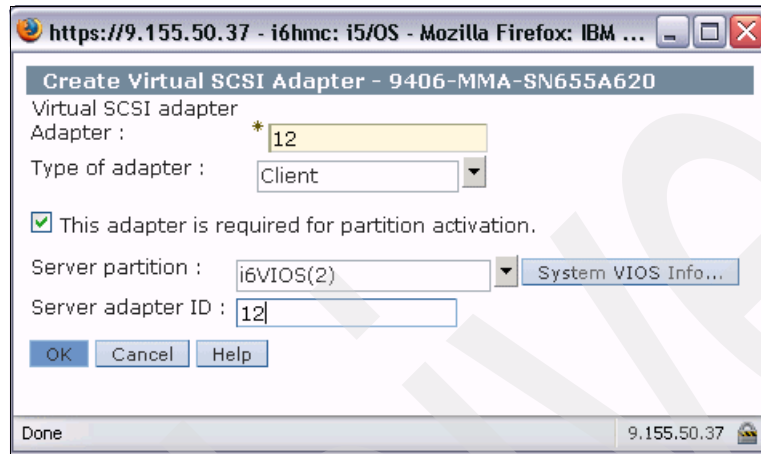

Figure 6-31 Create Virtual SCSI Adapter dialog
11. For the Virtual SCSI client adapter ID we specify the same ID that we used before when creating the virtual SCSI server adapter of the VIOS LPAR. For type of adapter we select **Client**, check mark **This adapter is required for partition activation**, select our previously created VIOS partition **i6VIOS** for the server partition, enter server adapter ID 12, and click **OK** to proceed, as shown in Figure 6-31.